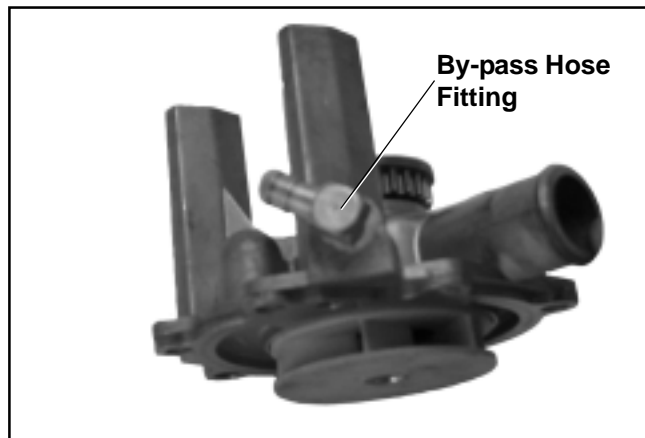

Figure 11-58. Fitting Position in Water Pump.
- If the fitting for the by-pass hose in the water pump was removed previously, apply pipe sealant with Teflon® (not Teflon® tape) on the threads and install onto the pump. Orient the fitting so the outlet points in the 10 o'clock position as shown in Figure 11-58.